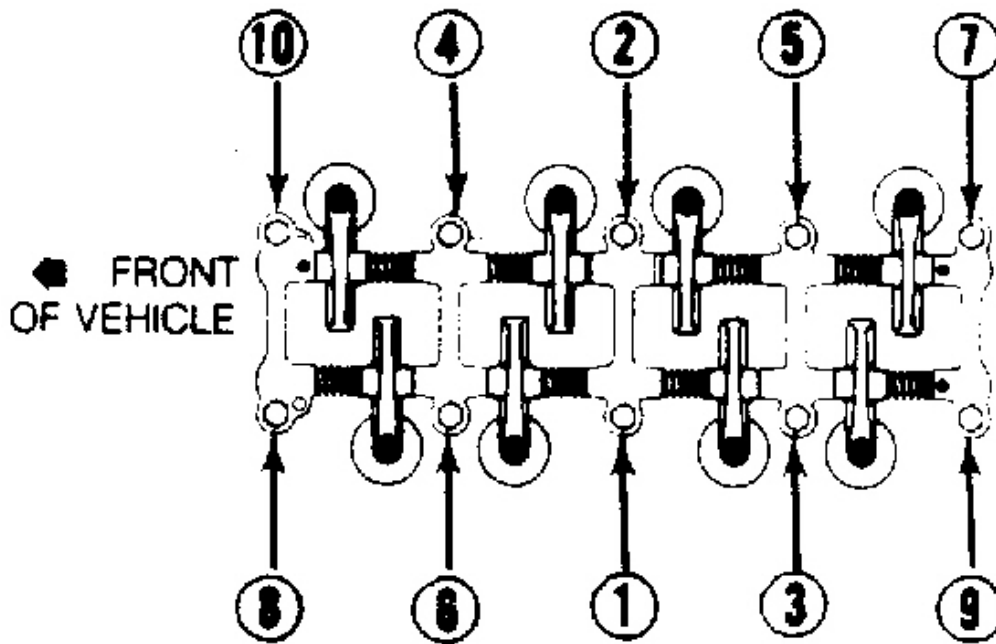

Fig. 3: Cylinder Head/Rocker Arm Bolt Tightening Sequence
6. Loosen cylinder head bolts, in 3 steps, in reverse order of tightening sequence. See **Fig. 3** . Remove rocker arm assembly. If necessary, pry equally at front and rear of rocker arm assembly to remove.
2. Install rocker arm assembly over locating dowels and tighten head bolts in 3 steps. See **Fig. 3** . Continue installation in reverse of removal sequence. Ensure valve and ignition timing is properly set. Adjust valves.